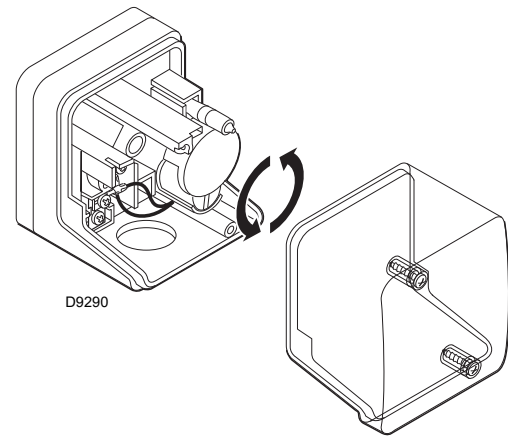

Fig. 52
- Adjust the low gas pressure switch to the start of the scale (Fig. 52, page 39).
Adjust the maximum gas pressure switch (Fig. 52) after making all other burner adjustments with the maximum gas pressure switch set to the end of the scale.
Adjust the minimum gas pressure switch (Fig. 52) after having adjusted the burner, the gas valves and the gas train stabiliser. With the burner operating at maximum output: